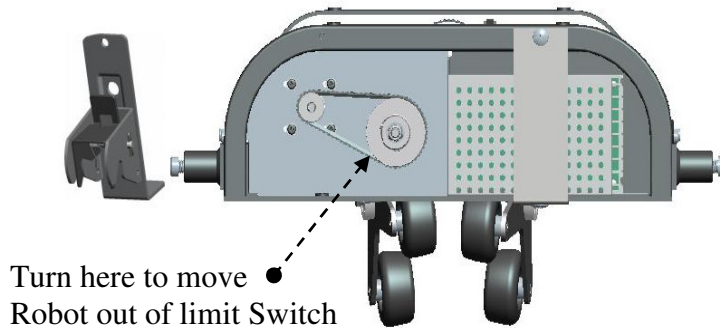
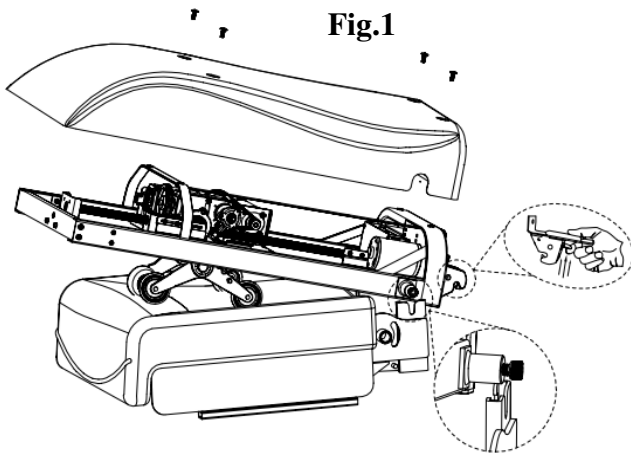

Fig.2
Fig.1
- 3> Refer to Fig.1 to open the back shell - Check the robot position (Fig.4 on next page) – If Switches are blocked by lever - Move the robot away from limit switches by manually turning the Rod Rotor.(Fig.2).
- 4> Remove PCB top cover (Fig1&3)– Check Cable connections – Check Top & Bottom Switch (Fig.4 next page) by pressing on lever; click should be heard.